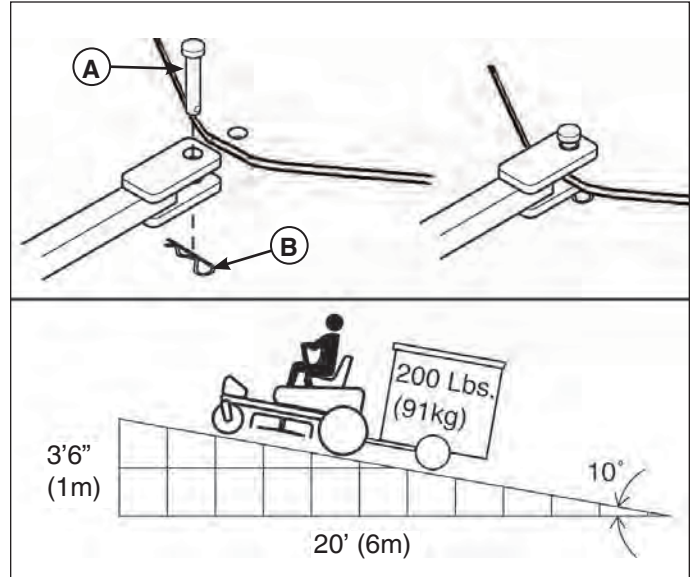

Figure 9. Trailer Weight Recommendations
The maximum weight of a towed trailer should be less than 200 lbs (91 kg). Secure the trailer with an appropriately sized clevis pin (A, Figure 9) and clip (B).